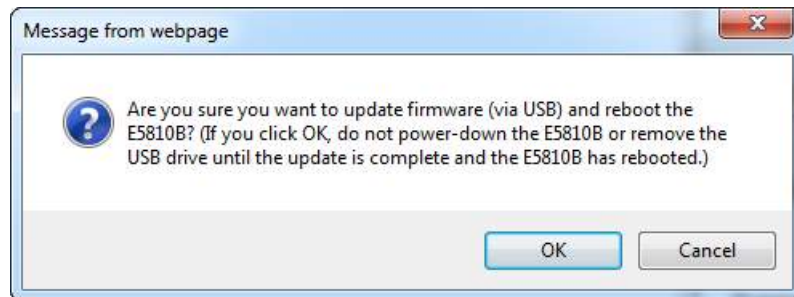

Figure 3-12 Update firmware (via USB) message dialog box
- a** You will be prompted with an update firmware (via USB) message dialog box as shown in **Figure 3-12**.